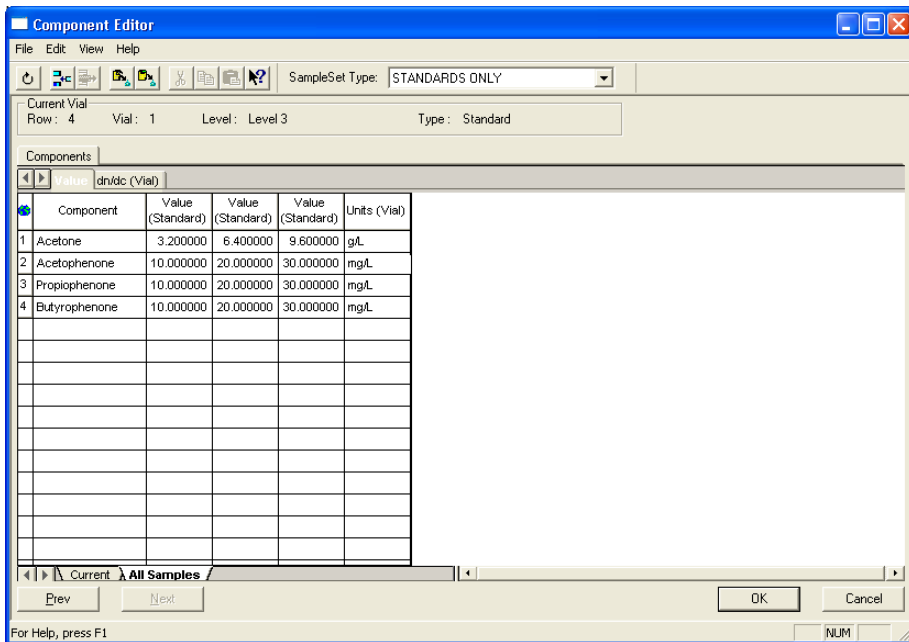

Figure 5-13 Component Editor, Names Entered from Processing Method
4. Select **Training Processing Method**, then click **Open**. This instructs the software to load the names of the standard components from the Training Processing Method into the Component Loading table (Figure 5-13).